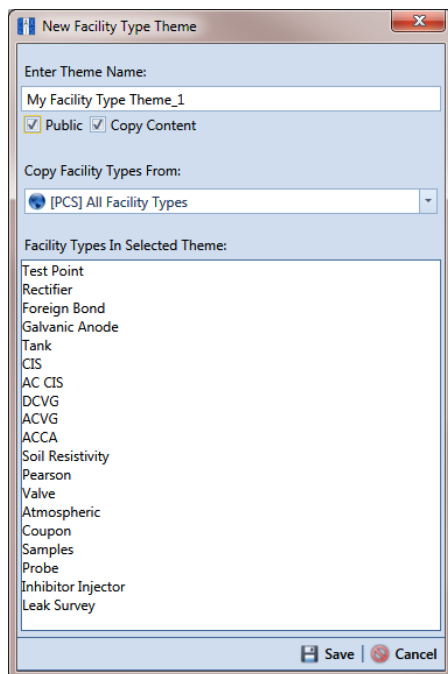

Figure 14-4. New Facility Type Theme
- 2 Click  **Add** to open the *New Facility Type Theme* dialog box (Figure 14-4, page 566).